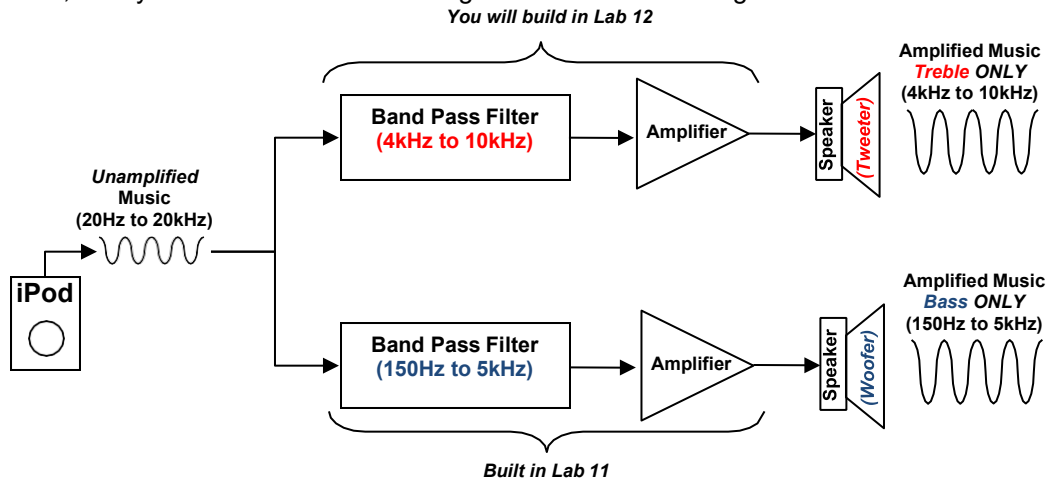

Figure 1 – iPod Docking Station Block Diagram
- Using the procedure discussed in Lab 11, **design** an active band-pass filter for the “treble channel” for the iPod docking station in **Figure 1**. Set the gain in the 3rd stage to be -10 (using an inverting amplifier as the 3rd stage as you did in Lab 11). Set the lower cut-off frequency to be **4kHz** and an upper cutoff frequency of **10kHz**. Use an input voltage of 300mV_{rms} and a load resistor of value 1kΩ.